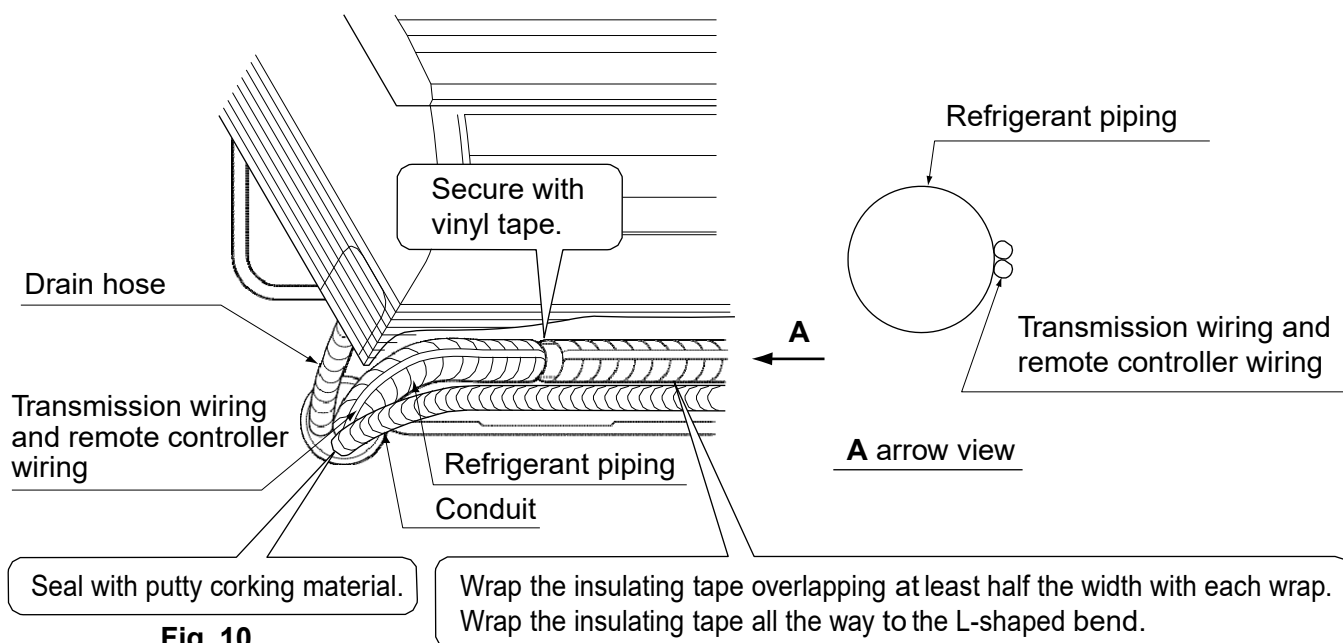

Fig. 10
(7) Pass power supply wiring and ground wiring threaded through conduit (For connecting the conduit to the unit, see “8-1 HOW TO CONNECT WIRINGS”), and remote controller wiring through the wiring guide in through the back of the indoor unit and to the front.
(8) Connect the piping. (See “5.REFRIGERANT PIPING WORK” and Fig. 10)